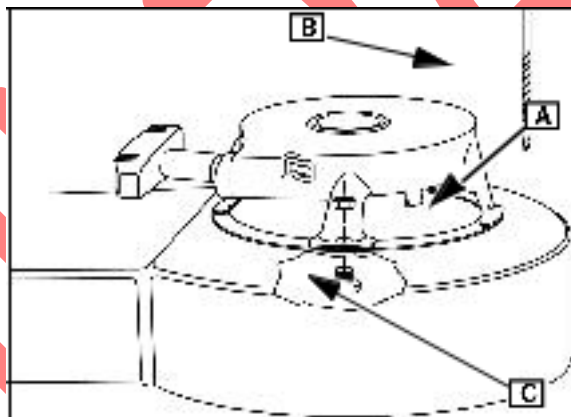

Fig. 2
3. Drill out spot welds (A) using a 3/16 in. (4.8 mm) drill bit ([B] Fig. 2). Drill only deep enough to loosen spot welds.
Reinstall using original screws or use nuts and bolts ([C] Fig. 2) as listed in the Illustrated Parts List (IPL).